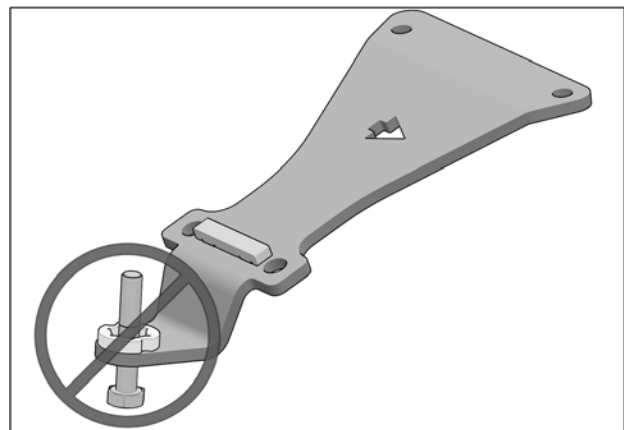

Fig. 26
**CAUTION:** Be sure that the bolt is inserted in the right direction. See Fig. 26